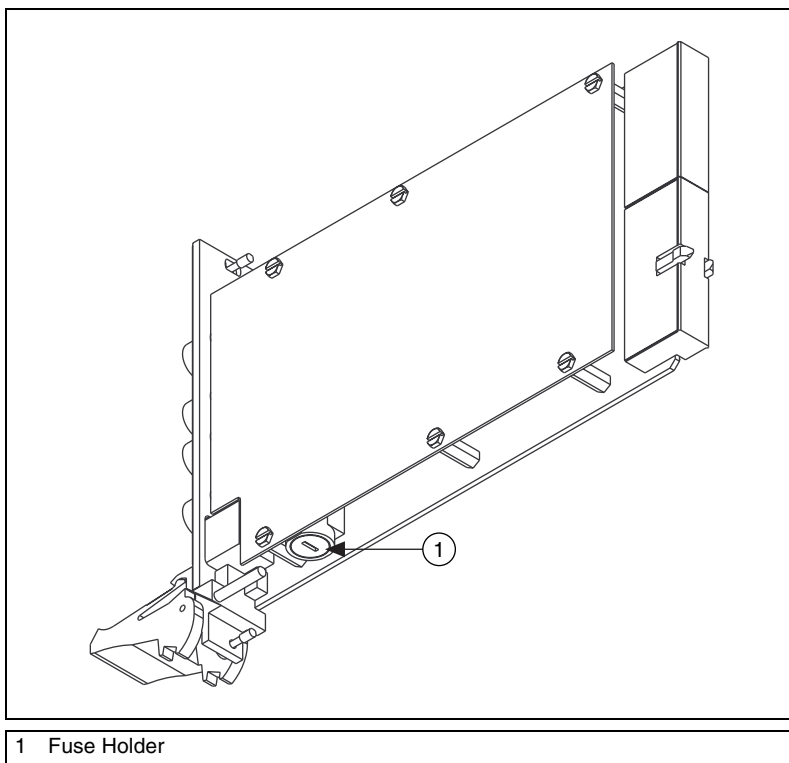

Figure 17. Removing the Fuse from the NI PXI-4060
3. Hold the device as shown in Figure 17 and locate the fuse holder.